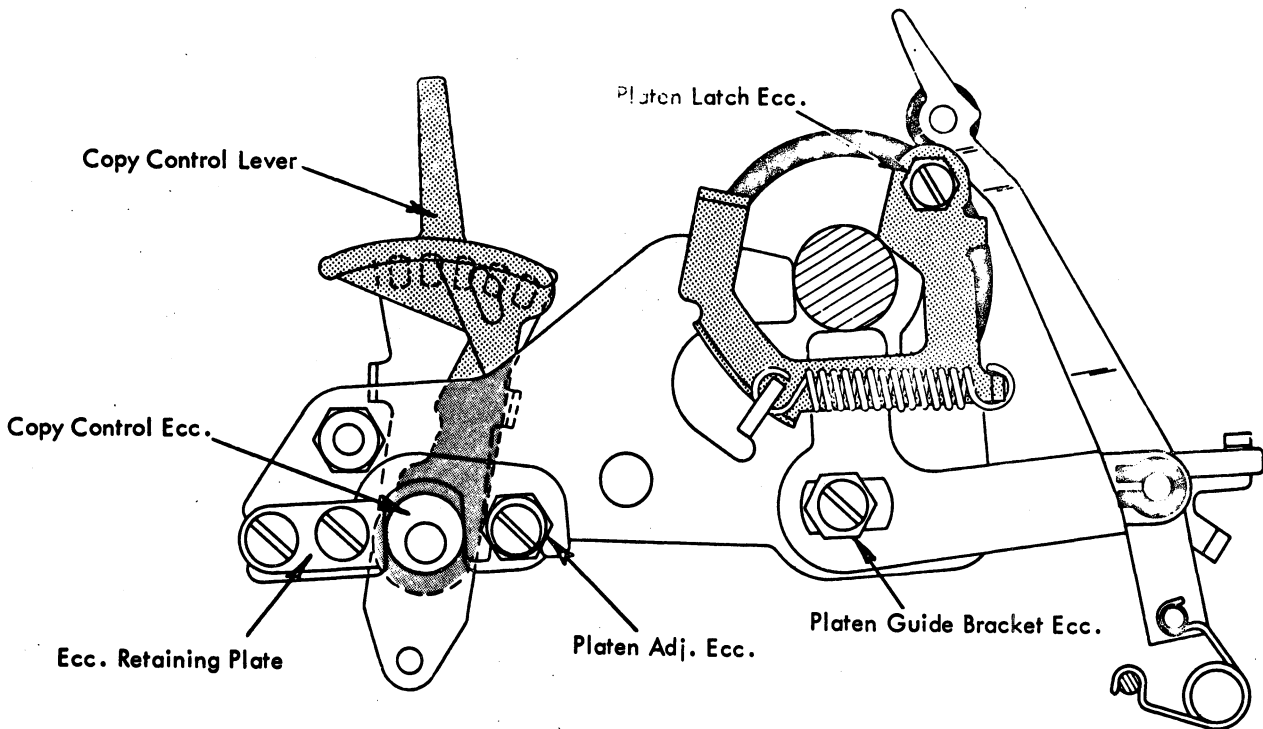
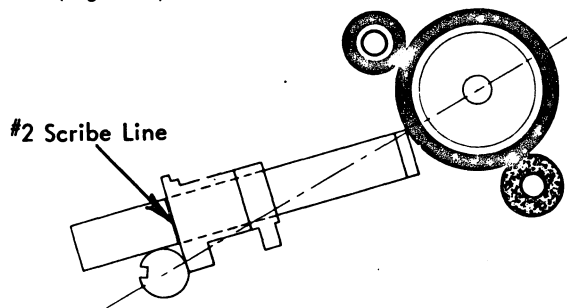

FIGURE 133. Copy Control Mechanism
FIGURE 135. Front to Rear Platen Adjustment
1. **Copy Control Lever** - With the copy control lever de-tented in the forward position, the high points of the eccentrics should be vertical (Fig. 133). Adjust the copy control lever on the shaft to satisfy this condition.
2. **Eccentric Retaining Plates** - For maximum efficiency of the copy control eccentrics, adjust the plate on each side of the machine so that no front to rear play exists between the eccentrics and the retaining plates (Fig. 133). Be sure that no binds exist.
3. **Platen Latches** - Adjust the platen latch eccentrics (Fig. 133) with the high part down so that the platen is held firmly in position vertically and horizontally. The latches should latch and unlatch freely with the feed rolls released.
Adjust the platen guide bracket eccentrics to obtain this condition (Fig. 133). The high part of the eccentrics should be kept to the rear. It is necessary to remove the deflector and front feed rolls when checking the adjustment with the Hoovermeter.
- b. **Platen Front to Rear** - With the head of the Hooverometer set at the #2 scribe line, the tool should just span the distance between the platen and the print shaft as illustrated in Fig. 135. Adjust the platen adjusting eccentrics to obtain this condition (Fig. 133).